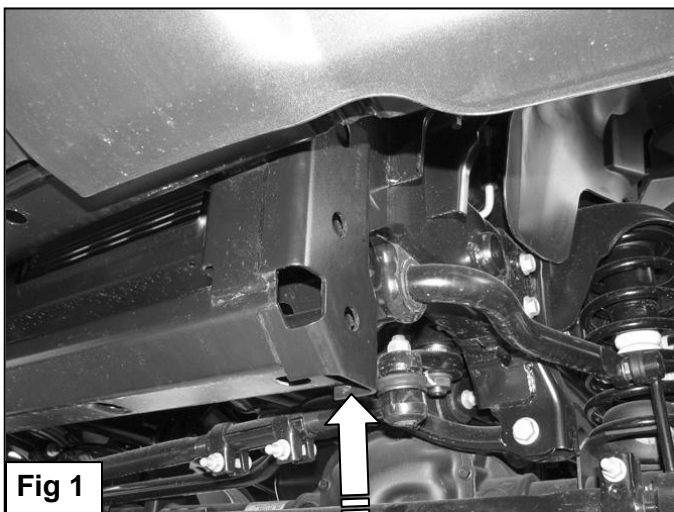

Fig 1
- Remove the plastic splash guard from under the front bumper and place it on a clean, stable work surface, **(Figure 1)**.